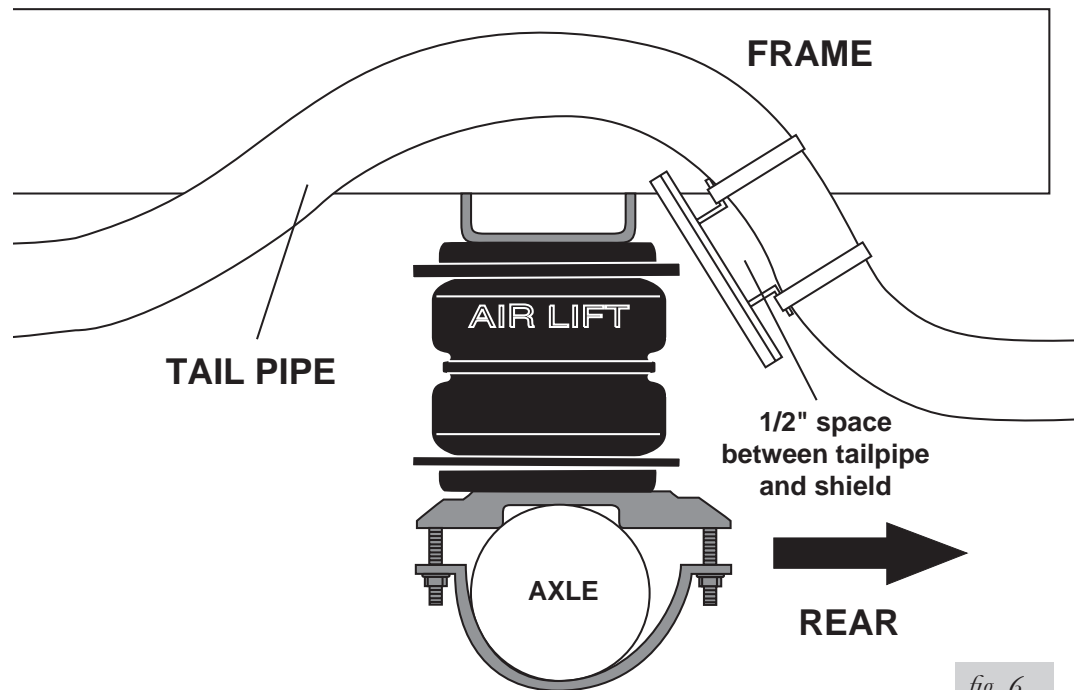

fig. 6
10. Installation of this kit requires an exhaust heat shield (Figure 6). The shield is attached to the exhaust pipe, with the flanges bent for component clearance. **Bend tabs to provide 1/2" dead air space between exhaust pipes and heat shield and maximum clearance with bellows.**